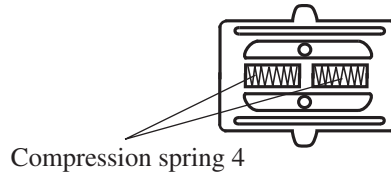

Fig. 4
- 1) Place two Compression spring 4s into Speed change lever as illustrated in Fig.4.